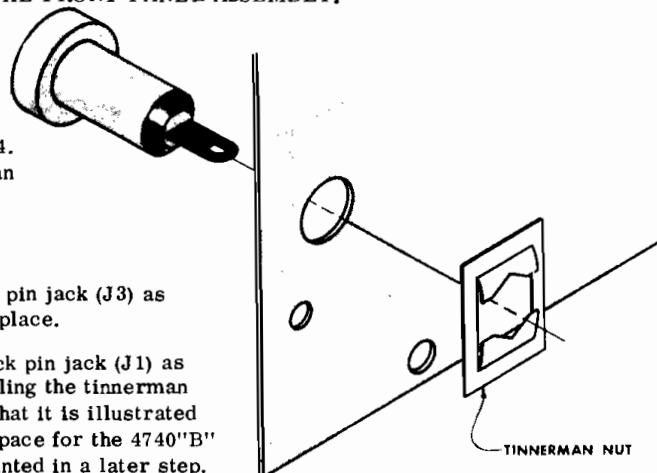

Figure 2
- () Place a red pin jack (J2) in the hole provided as shown in fig. 4. Fasten in place with a tinnerman nut as shown in detail figure 2. Press the tinnerman nut down firmly.
- () In a similar manner mount black pin jack (J1) as shown in figure 4. When installing the tinnerman nut rotate it 90° from the way that it is illustrated in figure 2 to insure adequate space for the 4740 "B" circuit board which will be mounted in a later step.